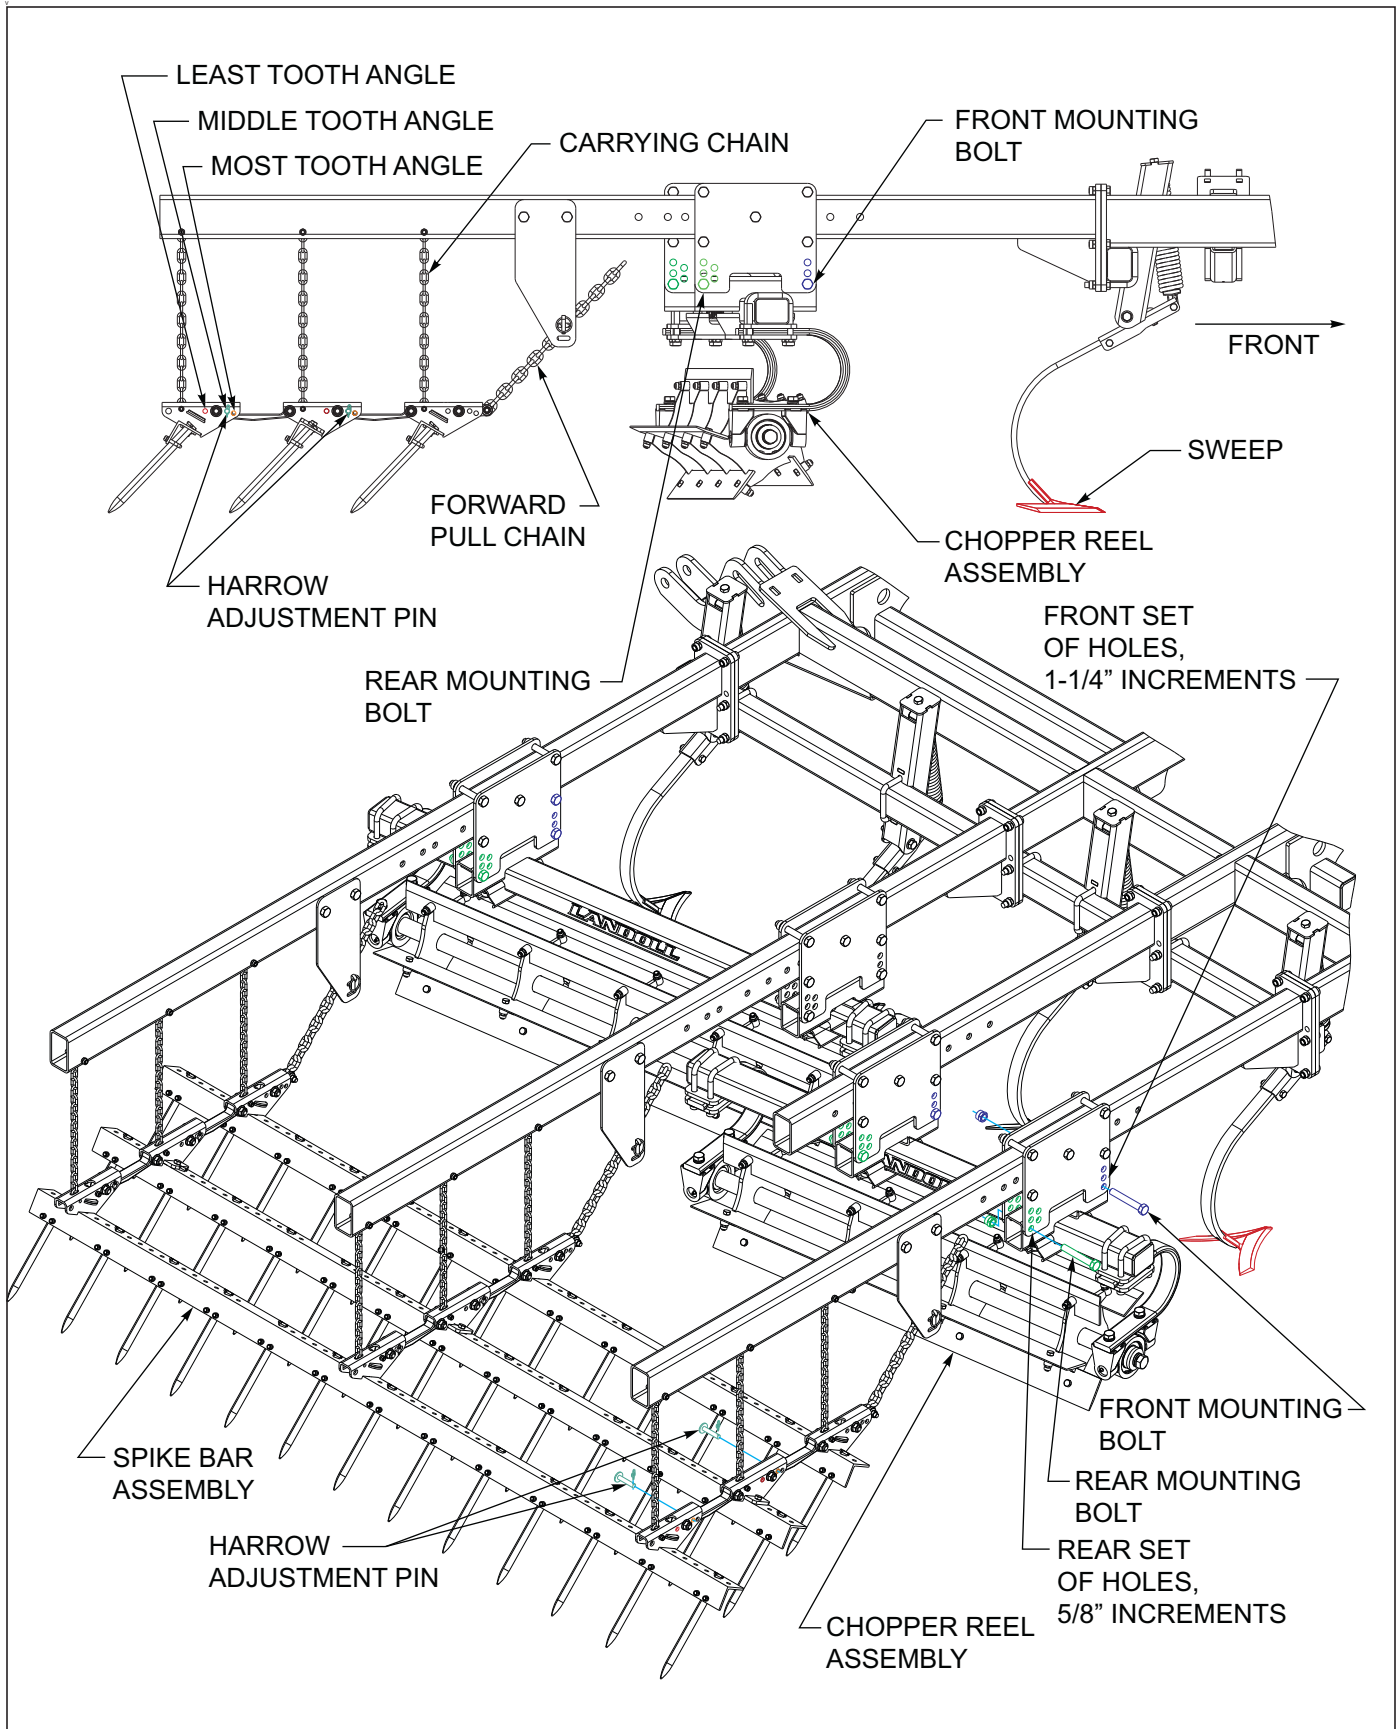

Figure 4-24: Chopper & 3 Row Spike Adjustments
2. Reel height is adjustable from 1" above the bottom of the sweeps to 3-1/2" above the sweep See Figure 4-24. Initially the reels are set in the lowest position, which is 1" above the sweeps. The front and rear set of holes adjust in 1-1/4 increments, while the intermediate holes at the rear are in 5/8" increments. Keep the reel level as possible when making adjustments. To adjust the reel height, place a block under the reel to prevent the reel from falling. Lower the finisholl till the bottom two blades of the reel rest on the block. Do not try to support the reel on a single blade to prevent rolling. Loosen the front and rear reel mounting bolts for both reel harrow arms. Remove either the front or rear mounting bolts, but not both. Rotate the reel to the next higher or lower position and then reinstall the bolts. Adjust the opposite end of the reel mount as needed. Retighten the mounting bolts when finished. All reels should be set the same height across the machine.
10. For the most aggressive spike tooth action, install the harrow adjustment pin in the forward mounting hole over each bar clamp for each spike bar See Figure 4-24 This will position the spike teeth to be in the most vertical position. In wetter or conditions with some residue, lower the spike tooth angle by positioning the harrow adjustment pin in the middle or rear hole. This will allow the teeth to lay flatter and shed more residue.